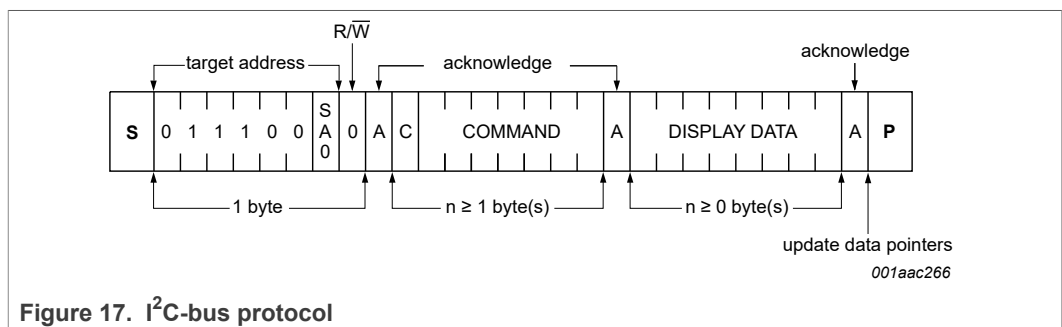

Figure 17. I2C-bus protocol
The I2C-bus protocol is shown in Figure 17. The sequence is initiated with a START condition (S) from the I2C-bus controller which is followed by one of two possible PCF8562 target addresses available. All PCF8562s whose SA0 inputs correspond to bit 0 of the target address respond by asserting an acknowledge in parallel. This I2C-bus transfer is ignored by all PCF8562s whose SA0 inputs are set to the alternative level.